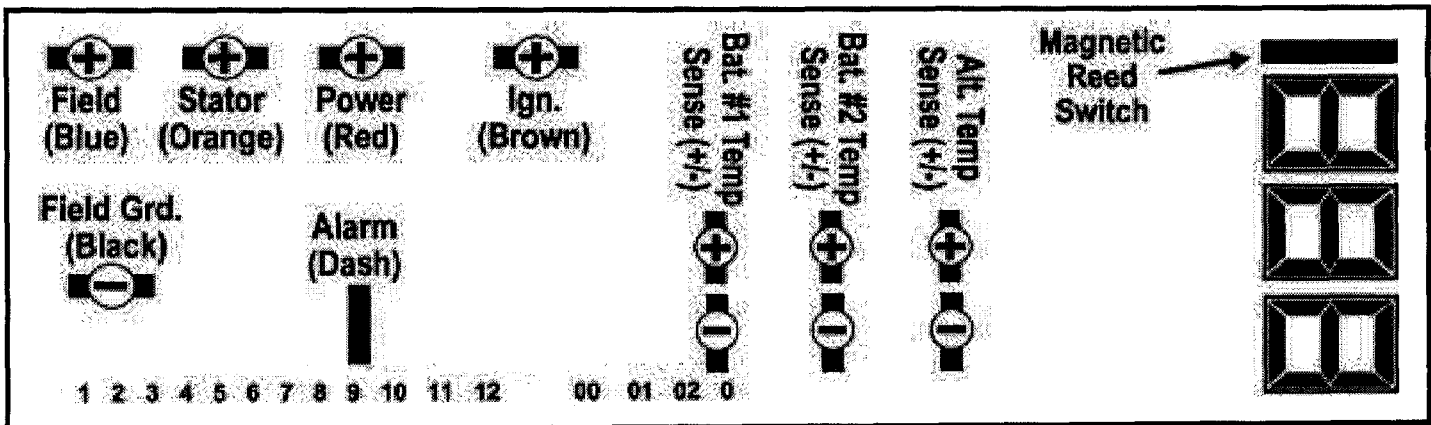
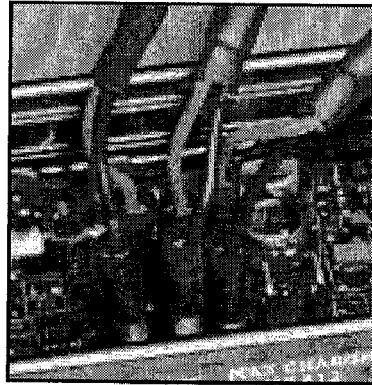

Figure 3 - Regulator terminal layout and function description.
Figure 4 - Proper attachment of optional battery and alternator temperature sensors at the regulator.
1. Attach the positive and negative wires to the Alternator Temperature Sensor terminals on the MC-624 (See **Figure 4**). See **Figure 3** on previous page for pin locations. Observe proper polarity at the terminals.
2. While observing polarity, connect the battery temperature pins to the positive and negative terminals as shown on **Figure 4**.